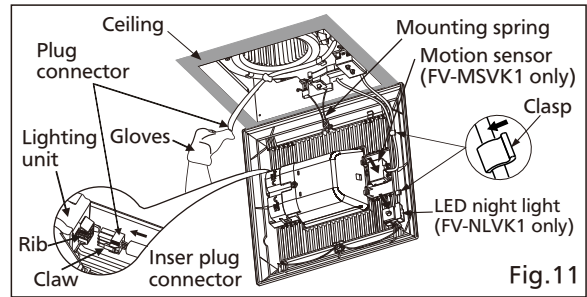

Fig. 11
13. Insert the grille mounting spring on the wiring side into the slot and insert the plug connector into the housing of the lighting unit. (Fig.11 of page 10)
14. Plug in the specified devices as your choice (refer to installation on page 8). Insert the motion sensor (FV-MSVK1 only) or LED night light (FV-NLVK1 only) into slot of the grille. Fix the lead wire into the clasp (Fig.11).